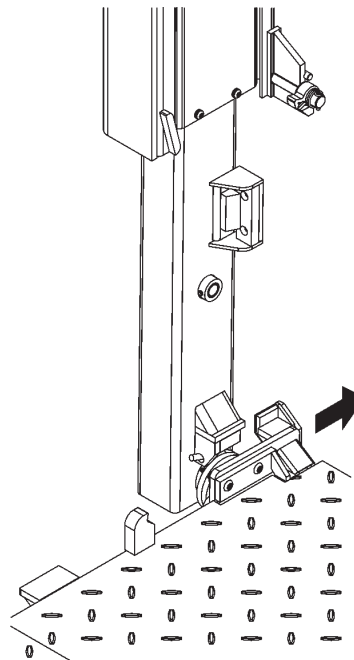

FIG. 24-2
4. Use a forklift or equivalent lifting device to move the platform approximately 6" towards the front of the vehicle to clear the platform away from the attaching points on the runners (**FIG. 24-2**). Now that the platform is clear of runners, raise the runners a few inches and move platform toward the back of the vehicle for sufficient room to remove the runners. Use the control box to lower runners (**DOWN**) to the ground.